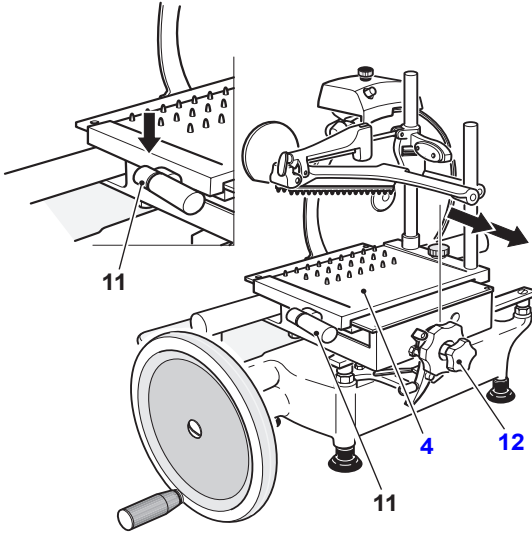

Figure 18-1
6. Turn the product holder operating handwheel (12) clockwise or gently press down on the fast forward lever (11) to move the product holder (4) away from the knife (16) (Figure 18-1).